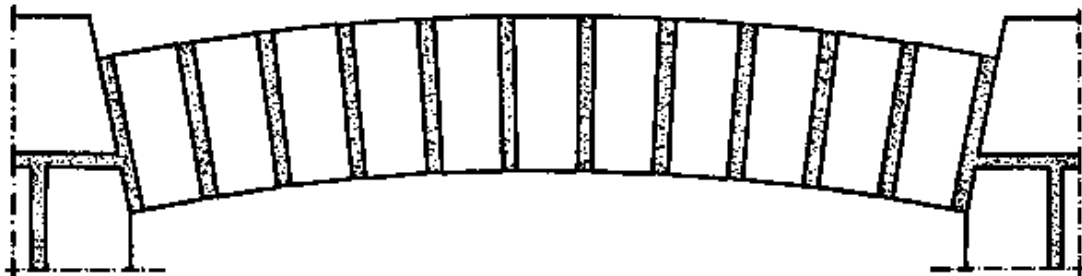

Fig. 4
- The most perfect solution would be to use specially made archstones which are wedge-shaped and fit exactly in the arch (Fig. 4). This requires some detailed and accurate planning, and more time and materials.